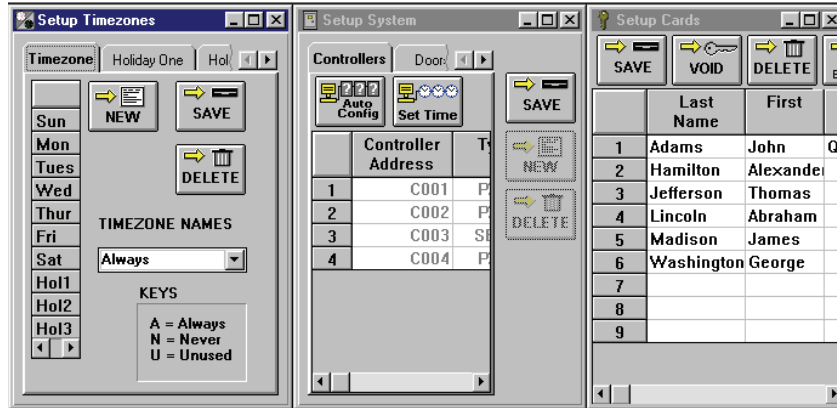

Figure 1-18: Tiled Database Windows
1. To tile all open windows, click on the Window ⇒ Tile pull-down menu option. The individual database windows will be organized in the *Doors* window as shown in Figure 1-18.